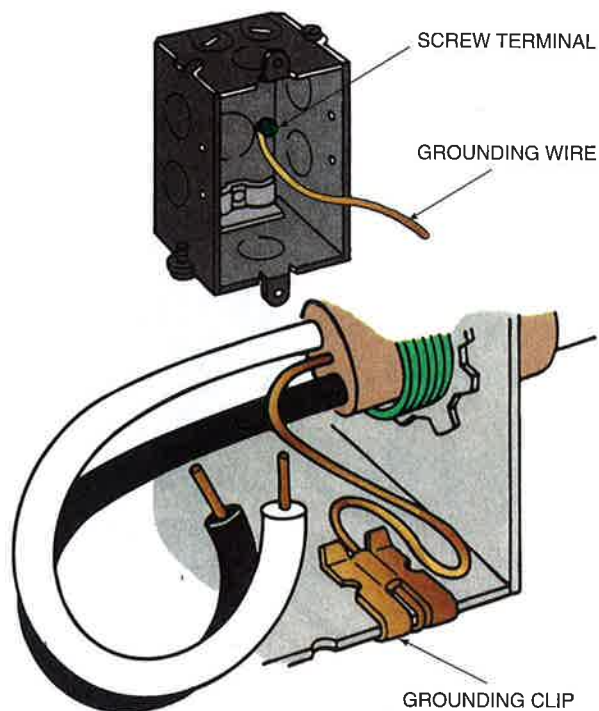

Figure 34-3 A screw or grounding clip is used to attach a ground wire to a metal box.
- The box must be grounded if it is metal. The ground wire from the cable is attached to the box by a screw or by a grounding clip (Figure 34-3).